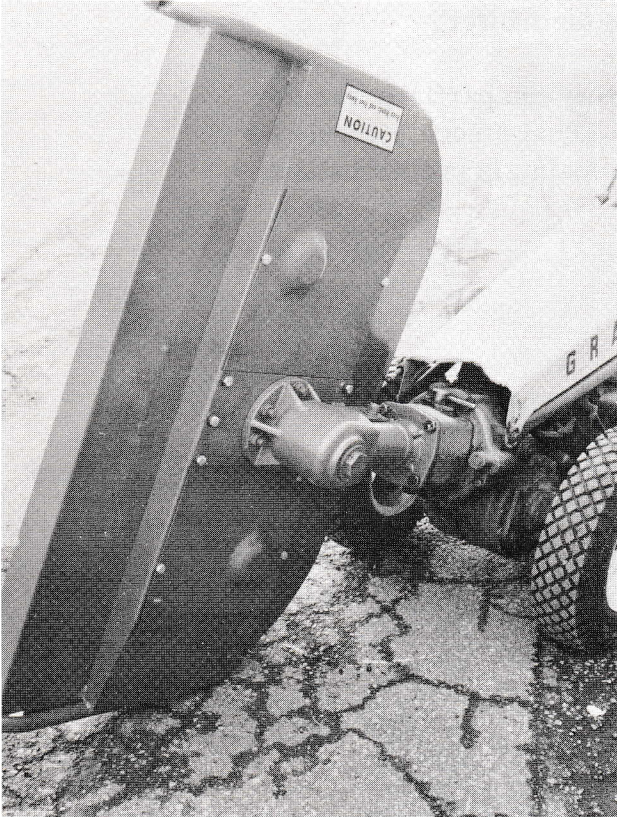

Figure 3
- (A) Remove both belt covers.
- (B) Stand mower on its side. (This can be done with the mower attached to the tractor as shown in Fig. 3.)